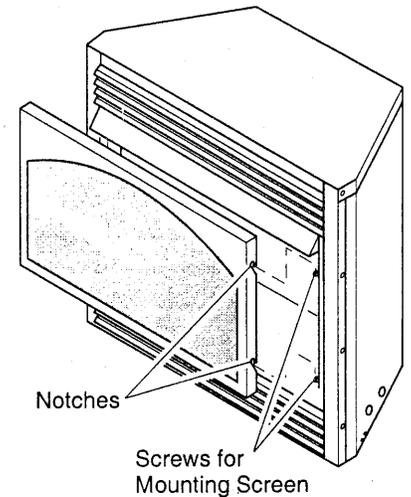

Figure 39 - Installing Fireplace Screen
5. Install fireplace screen by slipping notches of fireplace screen over screws on front of fireplace (see Figure 39).